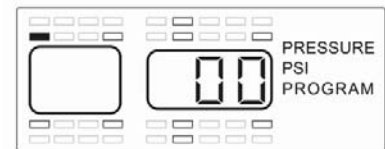

Figure 2-9
- 1) Using the same procedure as done previously, use the arrow buttons to select a wheel position and press the **S** button for 3 seconds. This will cause the first dash or number to blink (see Figure 2-9) of a three-digit baseline pressure number that will need to be entered for the tire position selected.